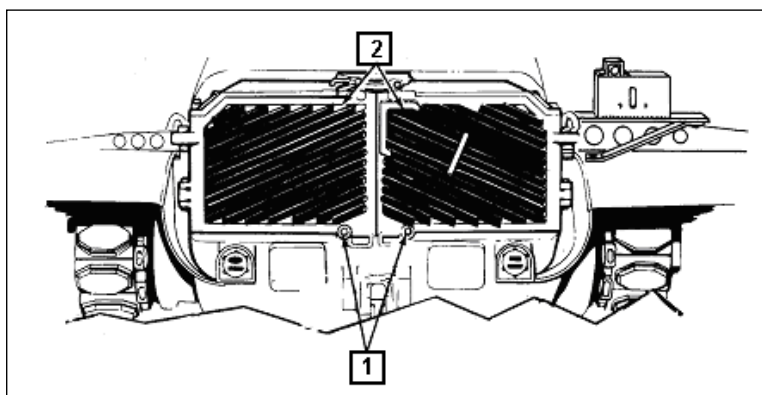

Fig 11-25. Abrindo as portas traseiras
(c) remover os parafusos(1) e abrir as portas traseiras(2) (Fig 11-25);